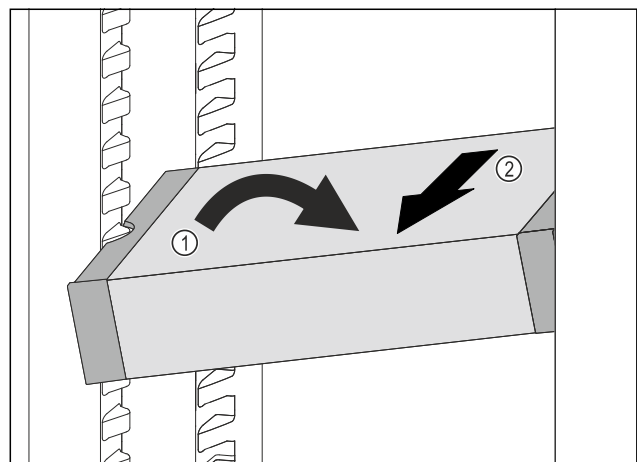

Fig. 185
- ▶ Set VarioSafe in refrigerator compartment at an angle. Fig. 185 (1)
- ▶ Take VarioSafe out to the front. Fig. 185 (2)